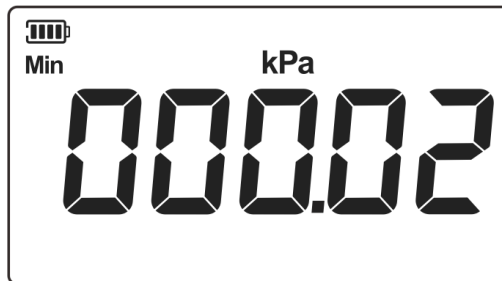

Figure 15 Lower limit calibration
2. Start lower limit calibration, as shown in Figure 15. The display area shows the measured pressure value, after the pressure stabilized, short press Enter button to confirm.